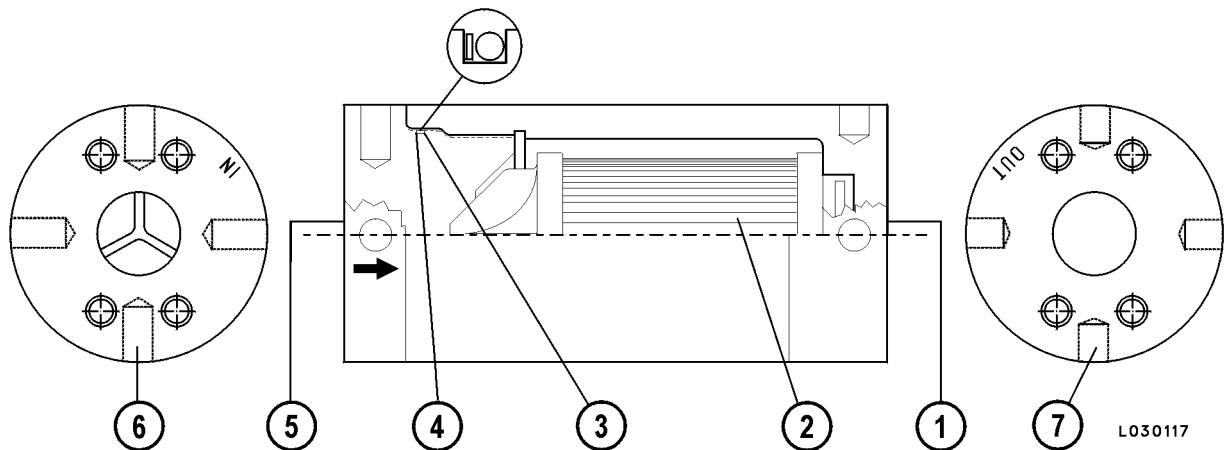

FIGURE 4-7. FILTER ASSEMBLY
1. Place filter assembly (Figure 4-7) on work bench. Using a spanner tool at both ends, hold housing (1) and loosen inlet housing (5) by turning counter-clockwise.